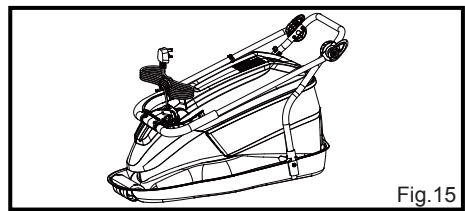

Fig.15
Storing the Mower (See Fig. 15)
- Fold the upper handle assembly over the device housing. Making sure that the cables do not become trapped (Fig. 15).